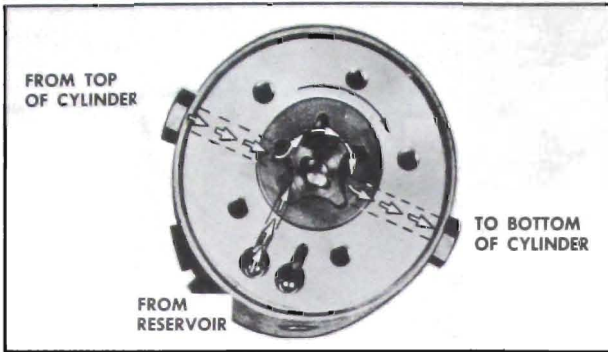

Figure 7-52—Operation of Pump To Raise Top
1. Raising the Top. When the red motor lead is energized the motor drive shaft turns the rotors clockwise as indicated by the large arrow in Figure 7-52. The action of the pump rotors forces the fluid under pressure to the bottom of each cylinder forcing the piston upward. This action causes the fluid above the piston in each cylinder to be forced into the pump, which recirculates the fluid to the bottom of the cylinders. The additional fluid required to fill the cylinder due to piston rod displacement is drawn from the reservoir.